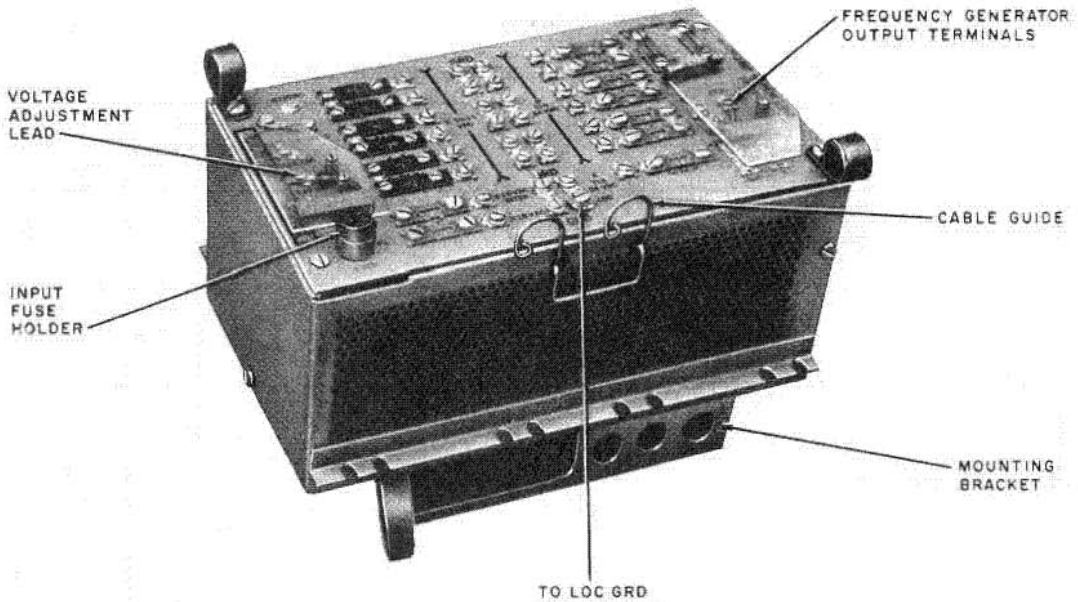

Fig. 3—30C1 Power Unit (Rack Mounted) Cover Installed
3.03 Mount the 30C1 power unit (Fig. 3) on the equipment frame using the four mounting